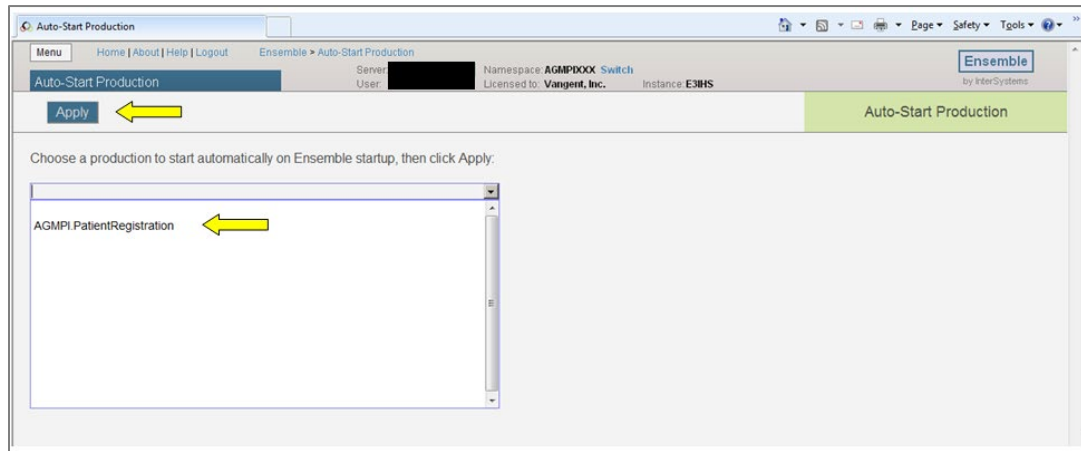

Figure 8-5: Auto-Start Production page
- On the **Auto-Start Production** page, select AGMPI.PatientRegistration from the **Choose a production to start automatically on Ensemble startup, then click Apply** list as shown in Figure 8-5. Click the **Apply** button to save the setting.